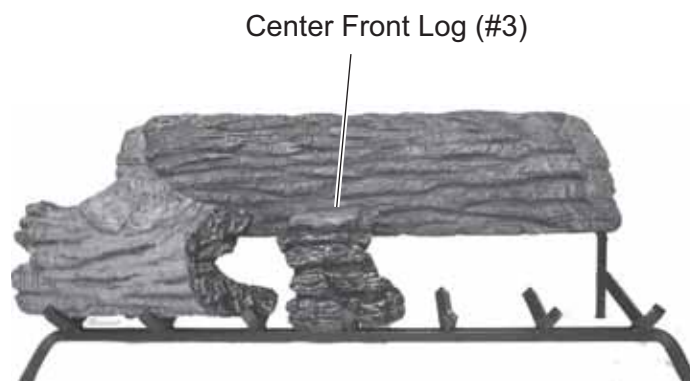

Figure 38 - Placing Center Front Log (#3)
4. Place center front log #3 on middle grate prong. *See Figure 38.*